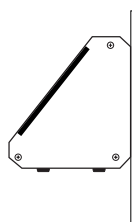

FIGURE 2: Low on a wall
- **Low or at working height on a wall**—The station panel is installed in the angled face and the box is mounted to the wall using the keyhole slots on the four-gang, filler panel (Figure 2 below).